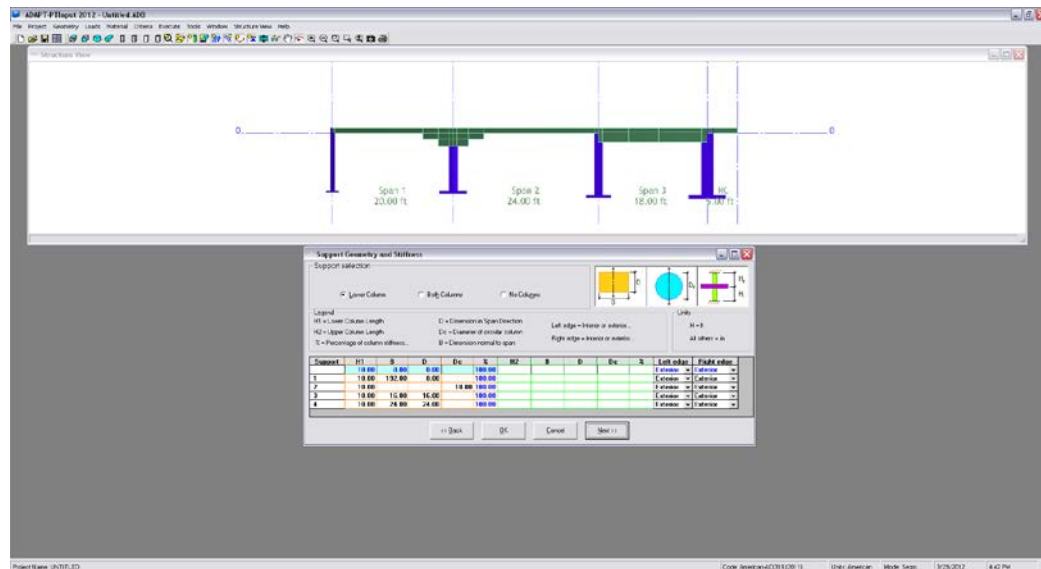

FIGURE 5.3-15
5.3.2.2 Enter Supports-Geometry (Fig. 5.3-15)
Next, enter the dimensions of the supports. *B* is the dimension of the column cross- section normal to the direction of the frame. *D* is the column dimension parallel to the frame. For Support 1, edit the wall dimensions, *B* as **192 inches (4877 mm)** and *D* as **8 inches (203 mm)**. For other supports, enter the given column dimensions as shown in **Figure 5.3-15**.